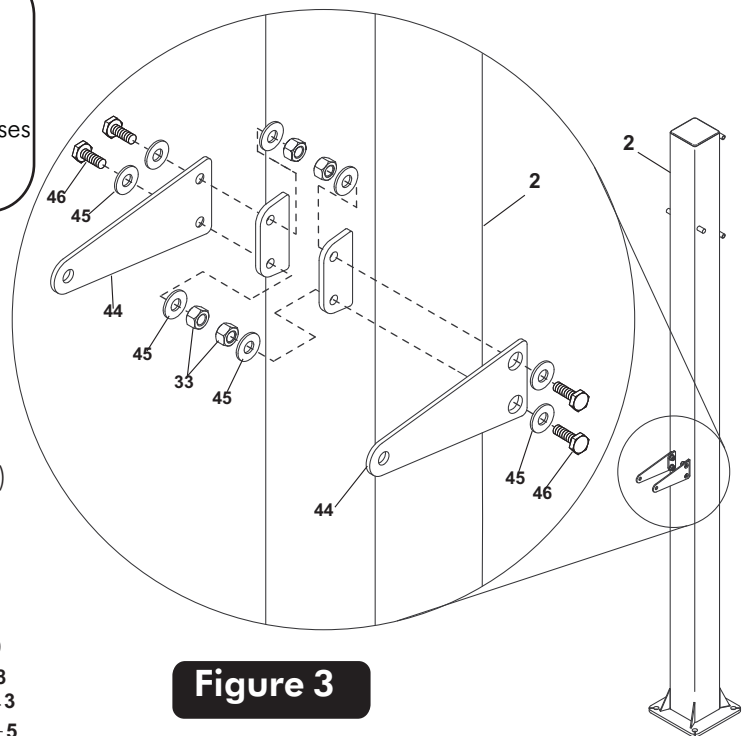

Figure 3
1. Attach Post Brackets (#44) to outside of brackets on back of Post Assembly (#2). Secure with two Hex Head Bolts (#46), four Wide Flat Head Washers (#45) and two Locknuts (#33) in each Bracket (#44). See Figure 3.